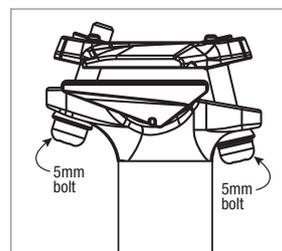

Figure 3
1. Loosen both seatpost saddle bolts until they are flush or slightly recessed into the nuts. Remove the rearmost bolt so the clamps can open enough to allow saddle installation (Fig. 3).